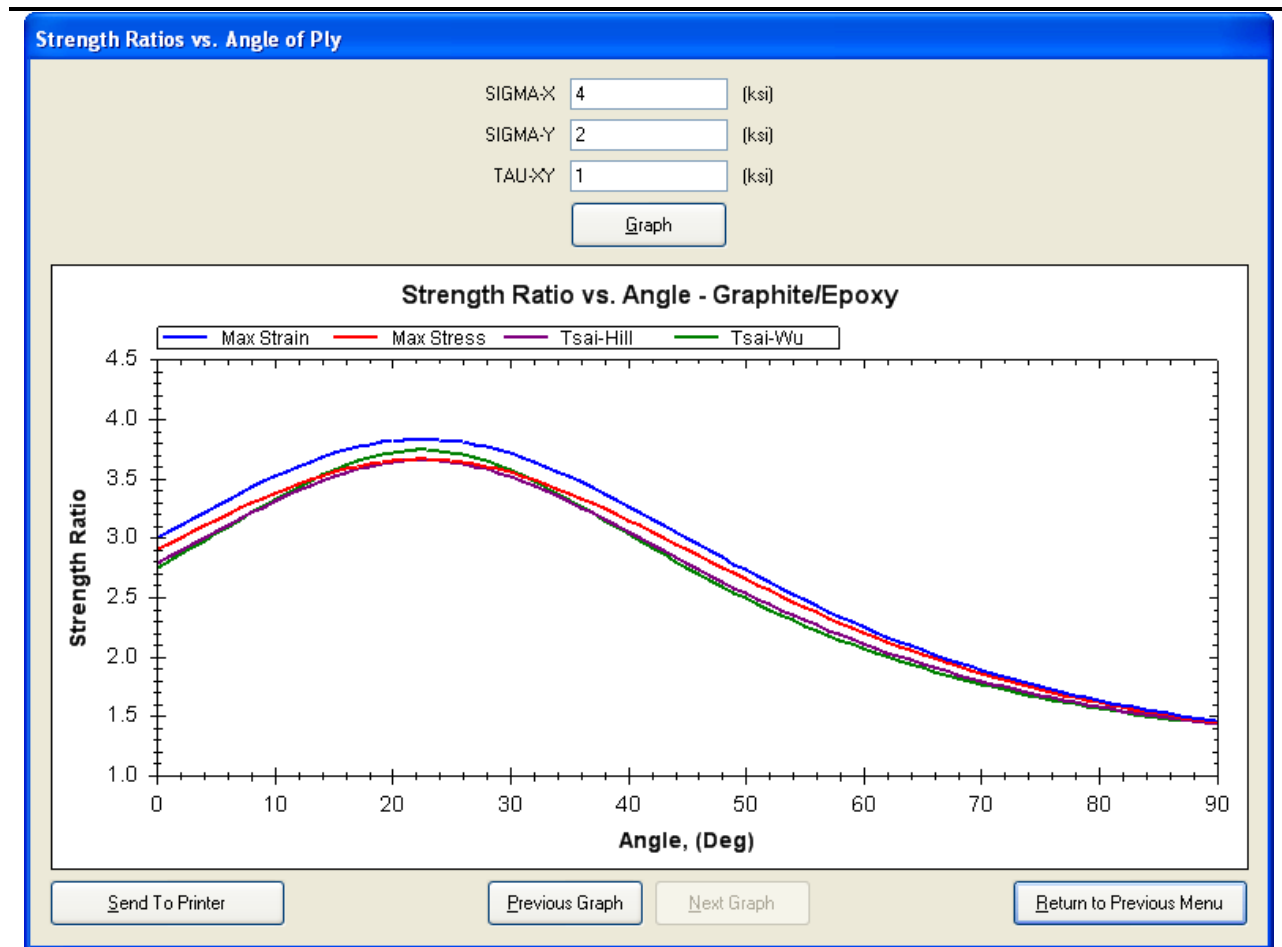

Figure 4. Strength ratio as a function of angle of ply for Example 2.
4. To analyze the lamina for the optimum fiber angle for the given load, select the Graph: Strength Ratios vs. Angle of Ply Button. Enter the components of the stress vector. Once you enter these values, you are presented with the first of four graphs showing the strength ratio as a function of the angle of ply. The second graph shows the results of using the Maximum Stress failure theory. From the graph (Figure 4), the lamina will not fail ($SR > 1$) for fiber angles between 10° and 30° .